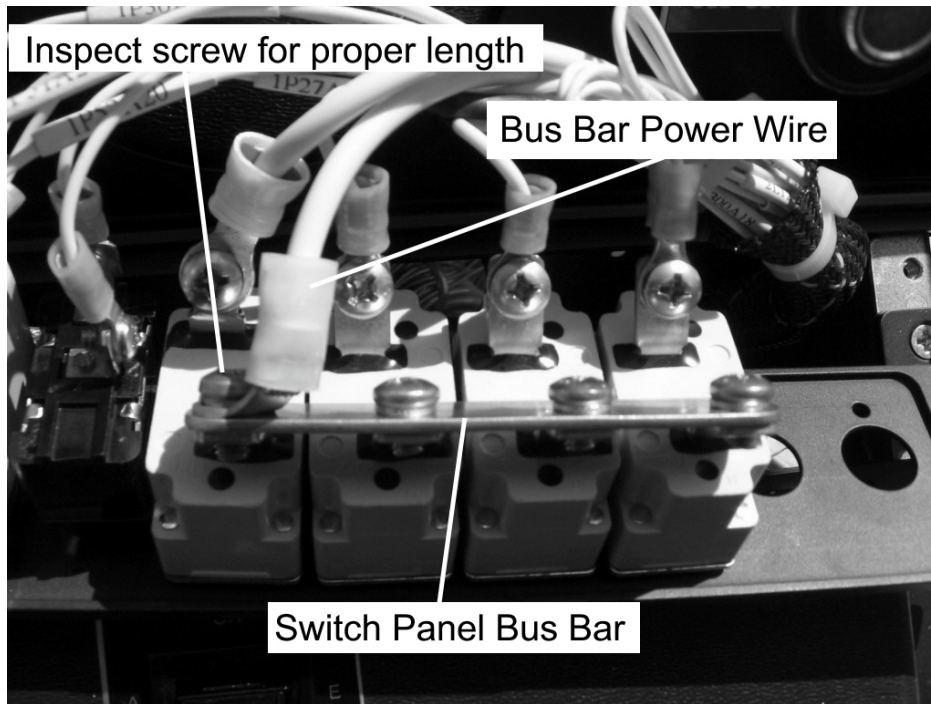

Figure 3. Switch Panel Bus Bar Installation
- G. Inspect the bus bar power wire installation on the switch panel assembly (See Figure 3). There should be 1½ to 2 threads protruding from the switch/breaker mounting tab. If the screw is too short, remove the screw and replace with the proper length screw IAW paragraph 5.2.